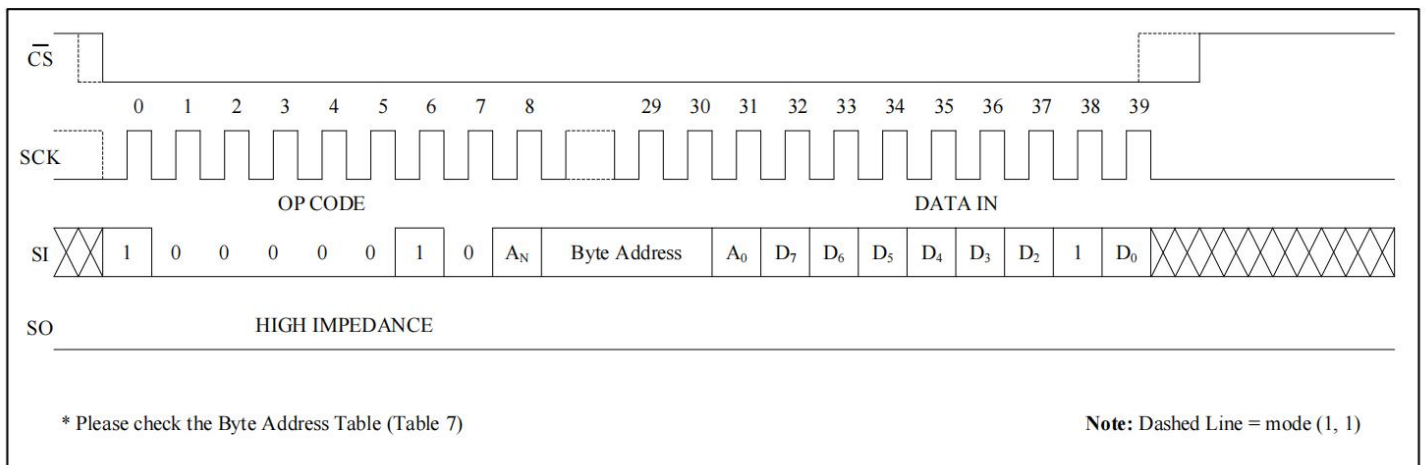

Figure 8
**Lock Identification Page:** The Lock ID instruction permanently locks the Identification Page in read-only mode. Before this instruction can be accepted, a Write Enable (WREN) instruction must have been executed. Lock Identification page is achieved with the Write Identification Page instruction, according to timing shown in Figure 8. Address bit A10 must be 1, all other address bits are Don't Care. The data bit1 must be "1", other bits don't care.